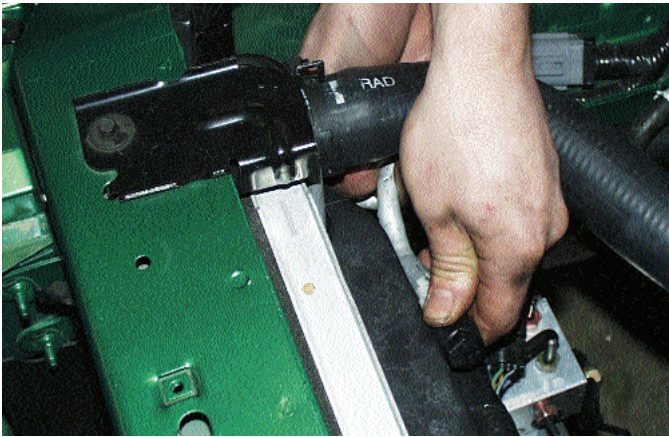

Fig. 3-a
- A. The air conditioner system fill port (located near the upper radiator hose) must be bent from its current, vertical position to a horizontal position parallel to the top of the radiator. (See *Fig. 3-a.*) This must be done to clear the bottom portion of the supercharger.